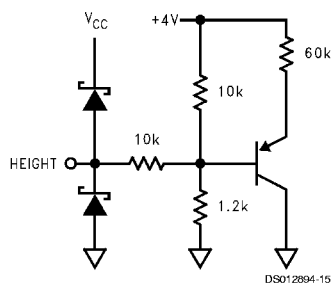

FIGURE 9.
**Pin 2. HEIGHT:** A 0V to 4V DC voltage applied to this pin sets the output amplitude of the sawtooth waveform at pin 15 (SAWTOOTH OUT) as well as the output amplitude of the correction waveform at pin 11 (E-W OUT). See *Figure 9* for the input schematic.